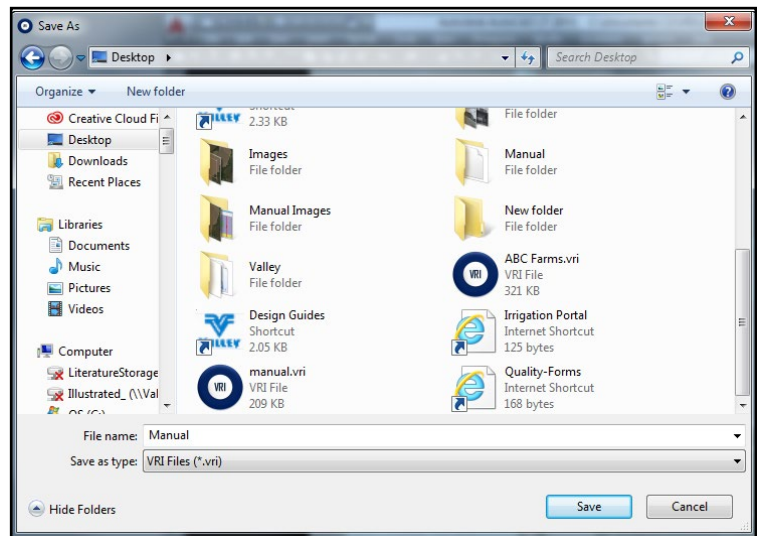

Figure 37-2 Project Saved
2. Locate the folder in which you want to save the project, give the file a name, and click Save. See Figure 37-2.